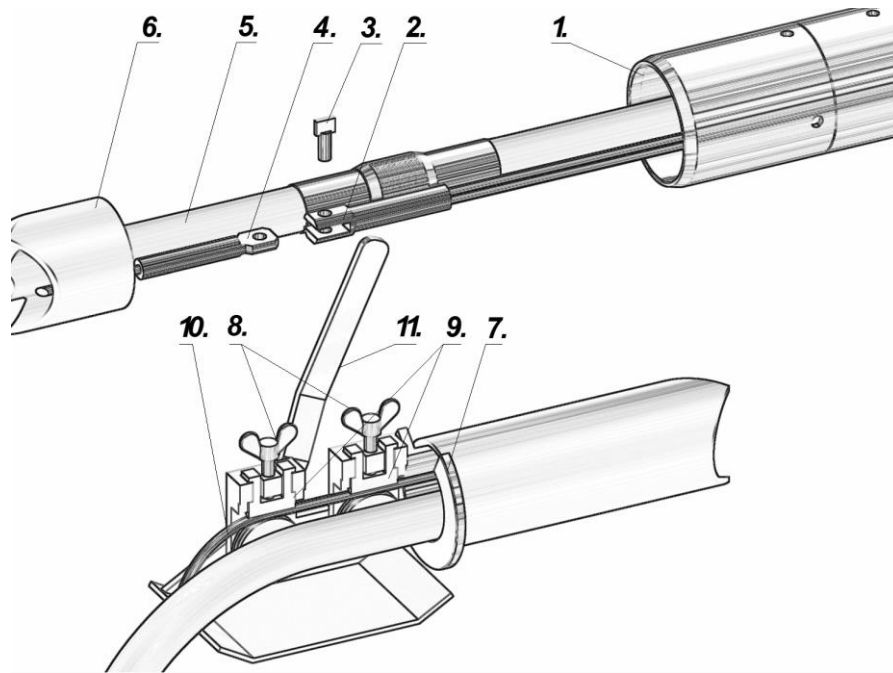

Figure 9.9.1
This method is used for the installation of a one piece plastic pipes (Figure 9.9.1). The MAX should be equipped with the (1) Pipe Tool for inserting PE/PVC pipe and by pulling rope (10) and the clamping plate with tensioner (7). Prepare the pipe to be pulled by making a cut at its end, which will be introduced into the pulling tailpiece, according to the drawing below: